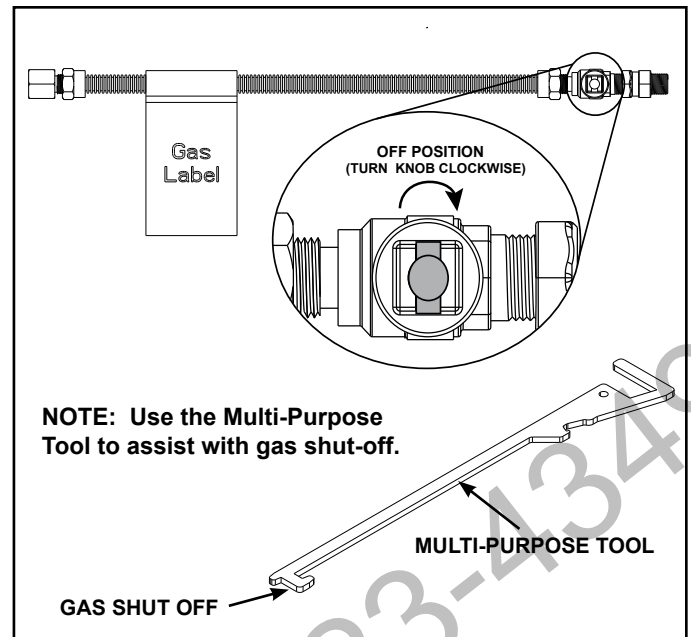

Figure 3 Gas Shut-off Detail / Multi-Purpose Tool
9. Turn off gas to valve. Red gas shutoff knob is located on ball valve. See Figure 3.
22. Turn on gas to valve. Red gas shutoff knob is located on ball valve. See Figure 3.